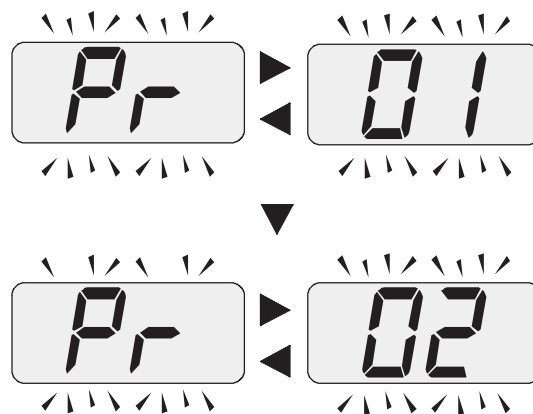

Figure 9.8
- 3 The display shows Figure 9.8